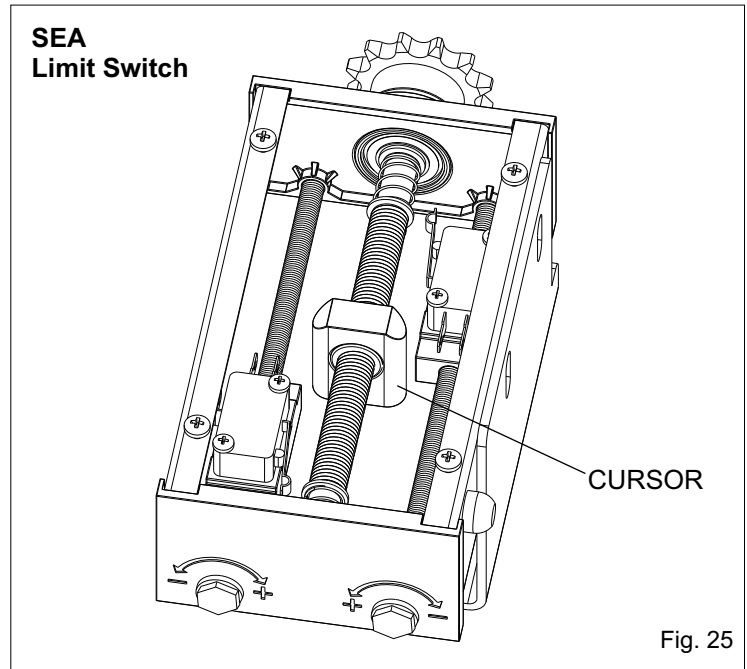

Fig. 25
9.3. Before acting on the limit switch, make sure that during the assembling of the motor with chain attached to the gate, the limit switch cursor are in the central position of its run (fig. 25) and the gate is in the middle of its opening.